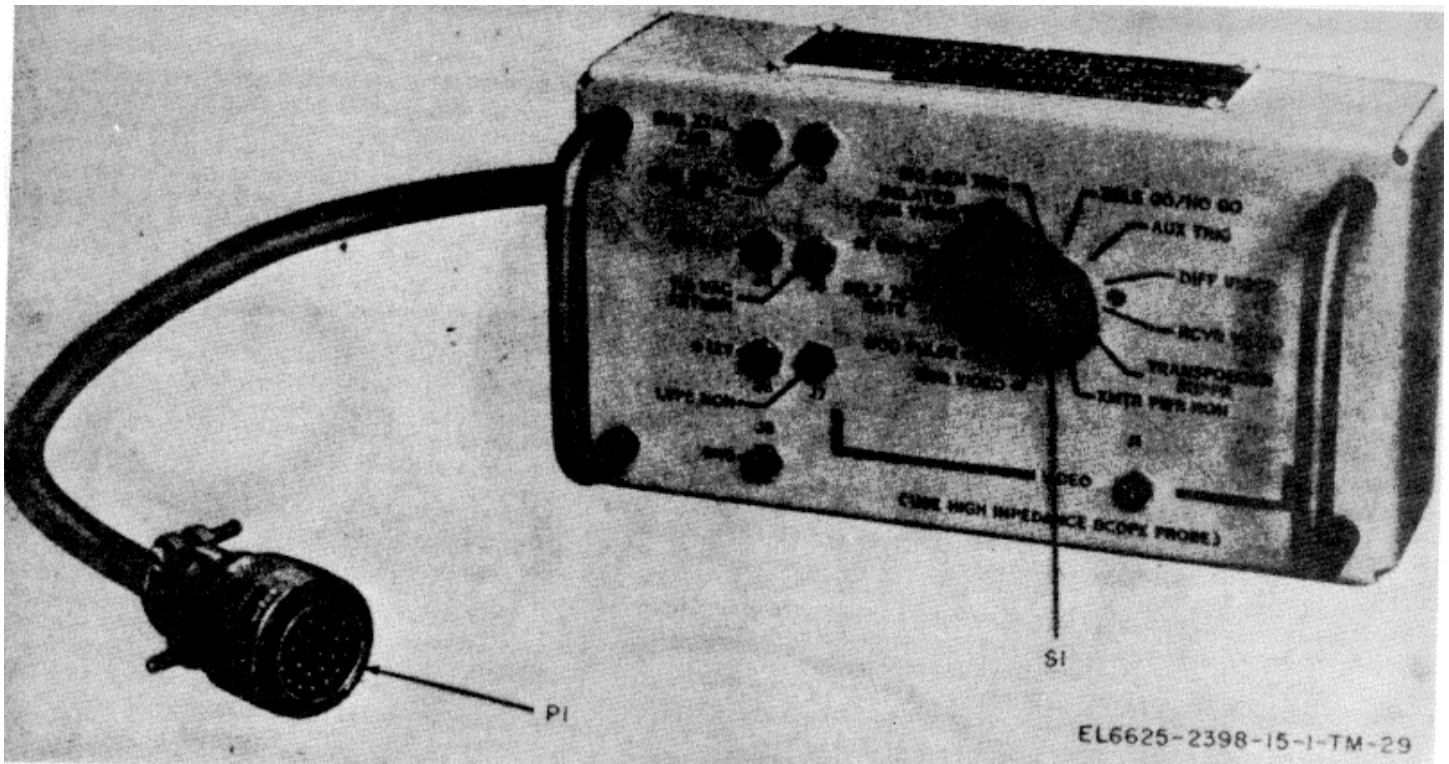

Figure 1-4. Adapter, Test MX-8564/TPM-24(V).
c. *Front Panel Test Adapter.* The front panel test adapter (fig. 1-4) consists of a selector switch and eight test jacks mounted in a small aluminum enclosure. A cable and plug, integral to the front panel test adapter, permit connecting this item to the front panel of the receiver-transmitter of the rf set for monitoring and checking various signals of the receiver-transmitter. Seven of the test jacks permit direct monitoring of receiver-transmitter signals using external test equipment. The receiver-transmitter signal available at the eighth test jack is determined by the setting of the selector switch.